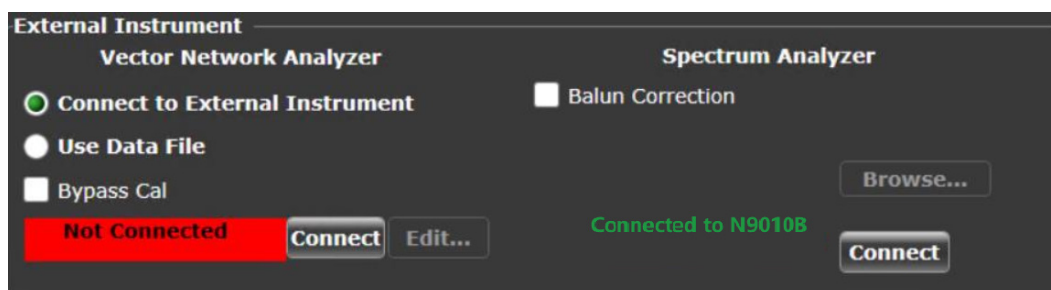

Figure 27 Connection Status after the Test App detects the Spectrum Analyzer
- 12 Once the 25GBASE-T Ethernet Test Application detects the Spectrum Analyzer, it is indicated on the **Set Up** tab as shown in Figure 27.